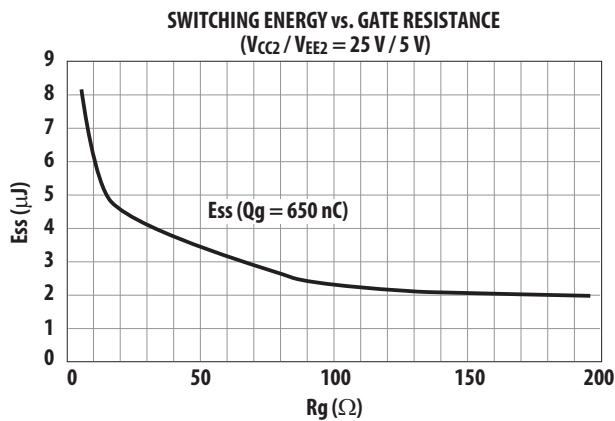

Figure 76. Switching energy plot for calculating average P_{switch} (for ACPL-38JT output driving an IGBT rated at 600 V/100 A).
2. Calculate total power dissipation in the part referring to Figure 76. (Average switching energy supplied to ACPL-38JT per cycle vs. R_G plot);
For $R_G = 10.5$, the value read from Figure 76 is $E_{SWITCH} = 6.05 \mu\text{J}$. Assume a worst-case average $I_{CC1} = 16.5 \text{ mA}$ (which is given by the average of I_{CC1H} and I_{CC1L}). Similarly the average $I_{CC2} = 5.5 \text{ mA}$.